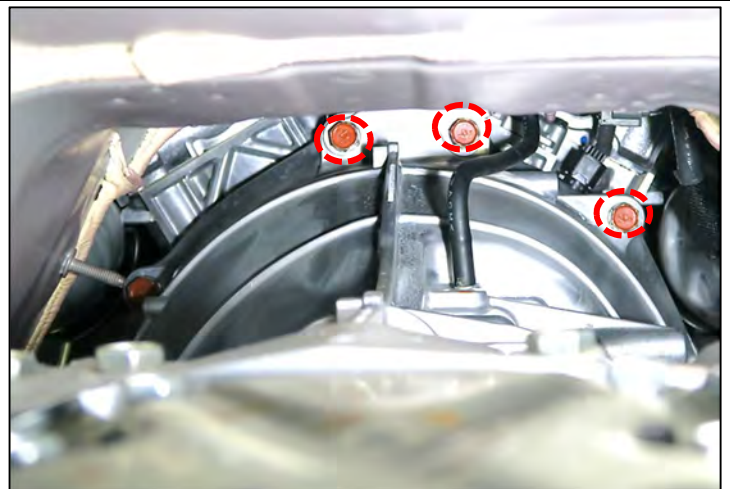

Figure 76
77. Start the (3) remaining upper transmission mounting bolts. (Figure 76)